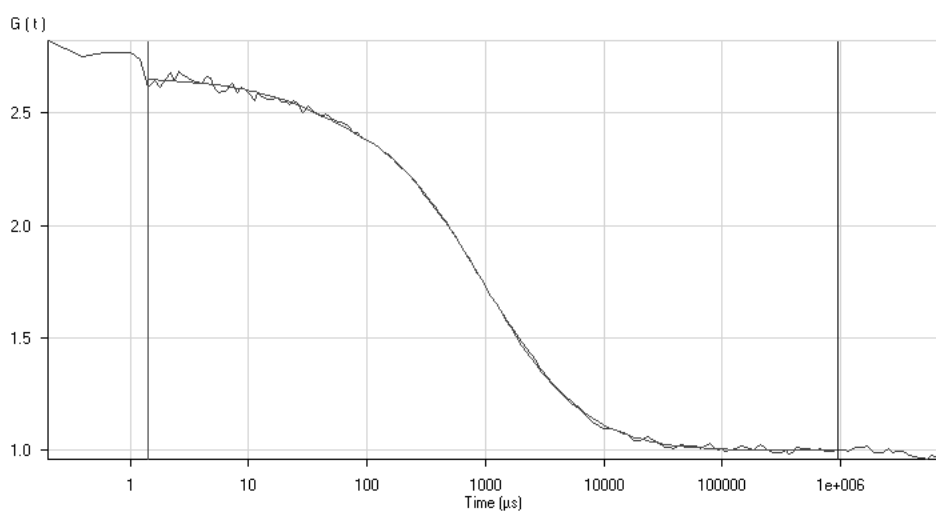
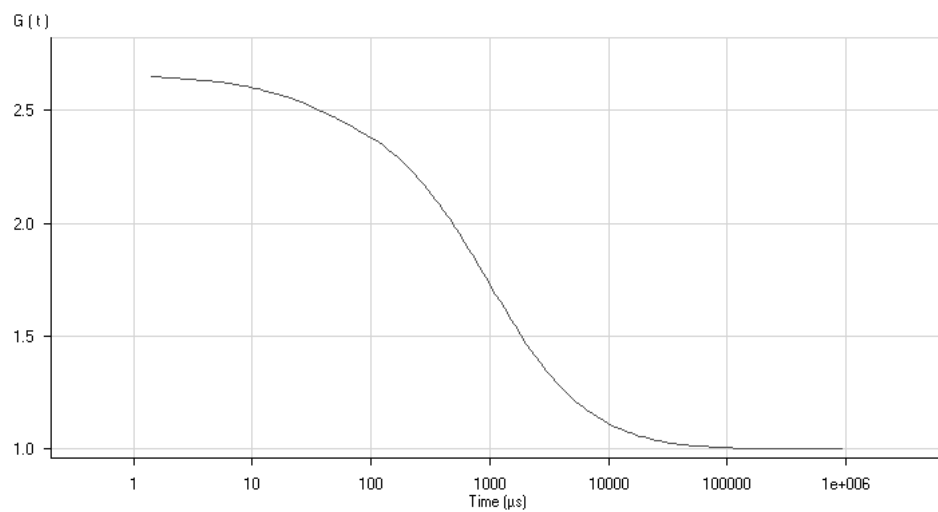

Fig. 5-378 The Correlation Curve window in normal display
Fig. 5-382 The Correlation Curve window in fit curve display ("View correlation curve" unchecked)
- Select **View correlation curve** will display the Correlation curve in addition to the Fit curve (see Fig. 5-378). If this option is not selected, only the Fit curve is displayed (see Fig. 5-382).